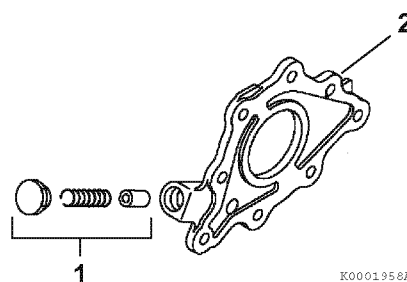

Figure 9-6
6. Remove the oil pressure regulator valve (1, **Figure 9-6**) from the oil pump cover (2, **Figure 9-6**).